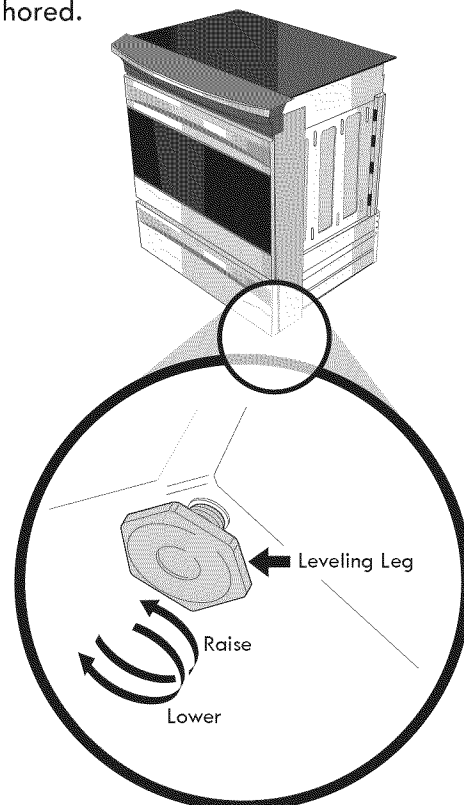

Figure 15
4. Level range if necessary, by adjusting 4 leg levelers with wrench (Figure 15). A minimum clearance of 1/8" (0.8 cm) is required between the bottom of the range and the rear leg levelers to allow room for the anti-tip brackets.